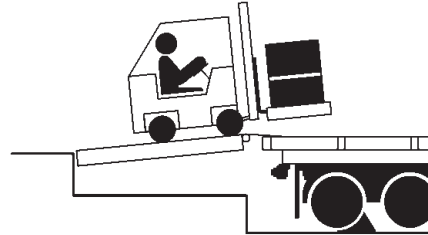

Figure 14
7. Make sure that the lip is fully extended and supported on the transport vehicle along the entire width of the platform with at least 4 in. (102 mm) of lip contacting the transport vehicle bed (Figure 14).